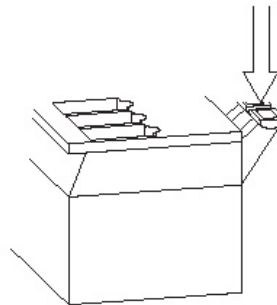

Figure No. 4
6. Remove 1/4" of insulation from the end of each of the 4 wires (without sense leads) or 6 wires with sense leads (refer to figure No. 4).
3. Remove 3" of the outer insulation jacket then remove 1/4" of insulation from each of the 4 wires and shield (without sense leads) or 6 wires and shield (with sense leads). Refer to Figure No. 4.